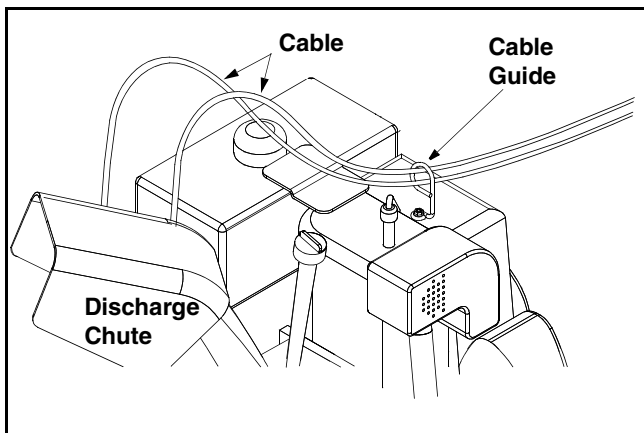

Figure 3
- If not already attached, slip the cables that run from the handle panel to the chute assembly into the cable guide located on top of the engine. See Figure 3.